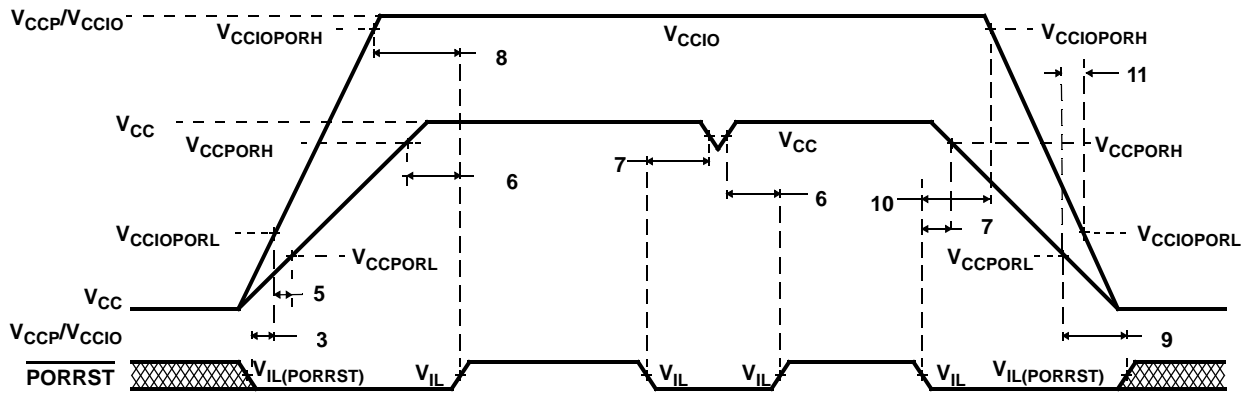

Figure 7.  $\overline{PORRST}$  Timing Diagram
**timing requirements for PORRST (see Figure 7)**